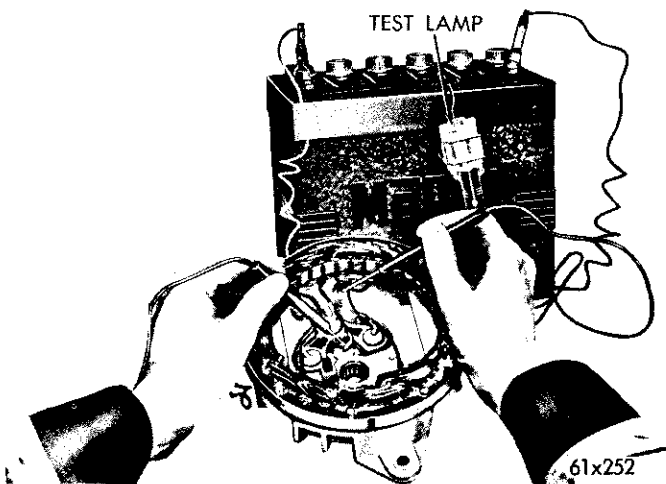

Fig. 39—Testing Stator Windings for Continuity
(6) Test the stator windings for continuity, by contacting one prod of the test lamp to all three stator leads at the “Y” connection. Contact each of the three stator leads (disconnected from the rectifiers). The test lamp should “light” when the prod contacts each of the three leads. If the test lamp does not light the stator winding is “open.” (See Fig. 39.)
(7) Install a new stator if the one tested is “grounded” or “open.” If the rectifiers must be re-